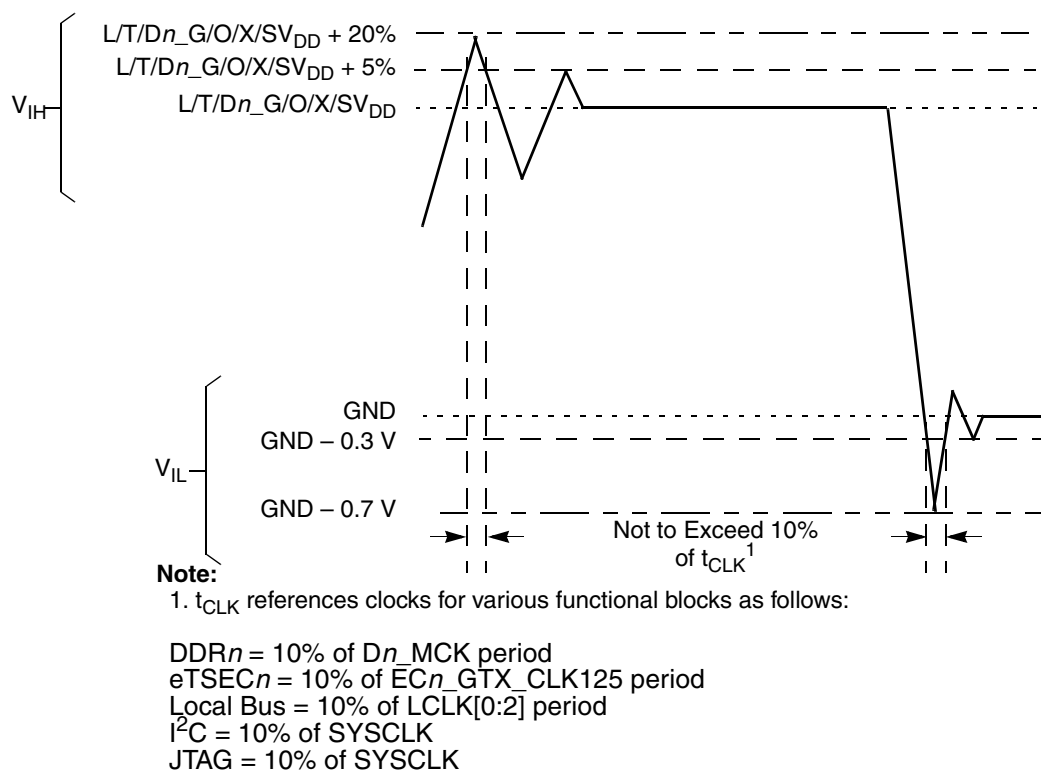

Figure 2. Overshoot/Undershoot Voltage for $Dn_M/O/L/TV_{IN}$
- During run time (M,L,T,O) V_{IN} and Dn_MV_{REF} may overshoot/undershoot to a voltage and for a maximum duration as shown in Figure 2.
Figure 2 shows the undershoot and overshoot voltages at the interfaces of the MPC8641.